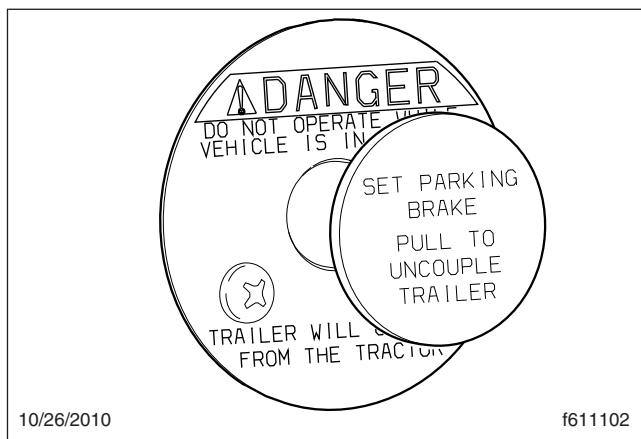

Fig. 18.10, Air-Actuated Kingpin Release Valve
An air-actuated kingpin release valve is optional with all fifth wheels. See Fig. 18.10.
2. Pull and hold the kingpin release valve (Fig. 18.10) until the kingpin lock mechanism opens and locks in place.